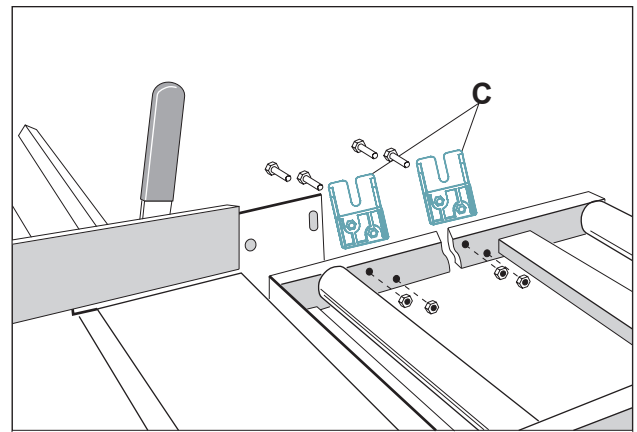
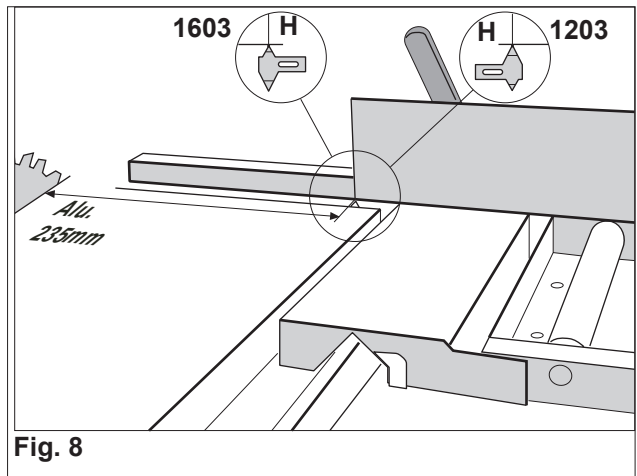
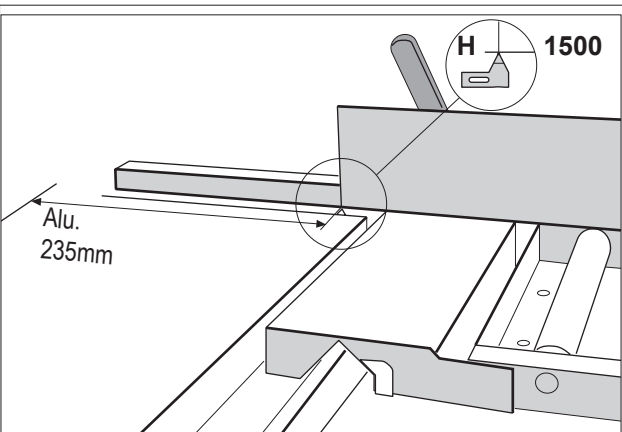

Fig. 6
Fig. 8
Fig. 9
- Screw mounting brackets **C** to infeed table as illustrated in *fig. 6*.
- To calibrate rip fence scale, turn turntable to **0°** (as for cross-cutting), raise saw blade and lock in raised position. Move rip fence lengthwise until the end of the fence is **235 mm** (*fig. 8 and 9*) from the teeth of the saw blade. Lock fence in place with handles **D** (*fig. 6*). Set extension stop and check accuracy of rip fence setting by cutting a test piece. When rip fence adjustment is correct, attach pointer **H** to the side of the table as shown in *fig. 8 and 9*. The pointer indicates the correct position of the end of the rip fence, making it easier to return the rip fence to this position. The indicator is mounted in different directions on models 1203 and 1603, see *fig. 9* for MaxiCut 1500.